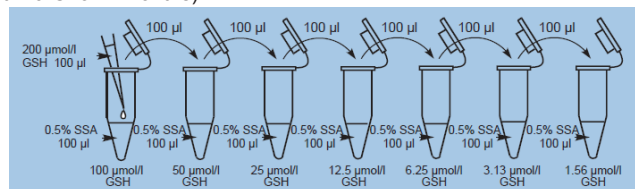

Fig. 2 Preparation of GSH standard solutions.
- 2) Dilute 100  $\mu$ l of 200  $\mu$ mol/l GSH standard solution by serial dilution with 100  $\mu$ l of 0.5% SSA in plastic tubes as indicated in Fig. 2.